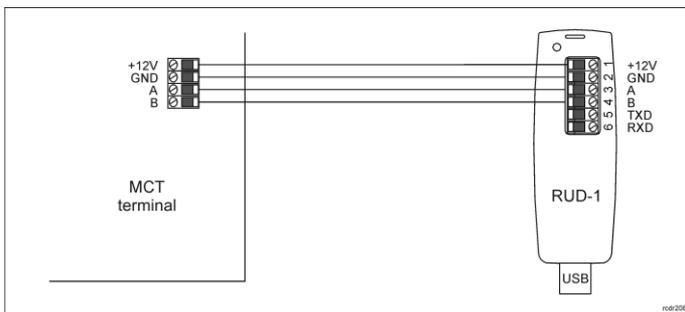

Fig. 1 Connection of MCT reader to RUD-1 interface for configuration
1. Connect the device to RUD-1 interface (fig. 1) and connect the RUD-1 to computer's USB port.